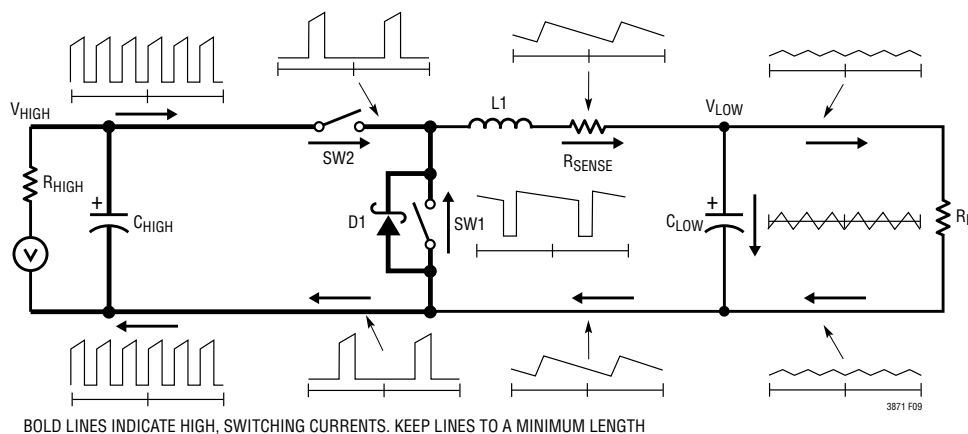

Figure 9. Branch Current Waveforms (Buck Mode Shown)
When laying out the printed circuit board, the following checklist should be used to ensure proper operation of the IC. These items are also illustrated graphically in the layout diagram of Figure 9. Check the following in the PC layout:
- The 47pF to 330pF ceramic capacitor between the ITH pins and signal ground should be placed as close as possible to the IC. Figure 9 illustrates all branch currents in a switching regulator. It becomes very clear after studying the current waveforms why it is critical to keep the high switching current paths to a small physical size. High electric and magnetic fields will radiate from these loops just as radio stations transmit signals. The output capacitor ground should return to the negative terminal of the input capacitor and not share a common ground path with any switched current paths. The left half of the circuit gives rise to the noise generated by a switching regulator. The ground terminations of the synchronous MOSFET and Schottky diode should return to the bottom plate(s) of the input capacitor(s) with a short isolated PC trace since very high switched currents are present. External OPTI-LOOP® compensation allows overcompensation for PC layouts which are not optimized, but this is not the recommended design procedure.